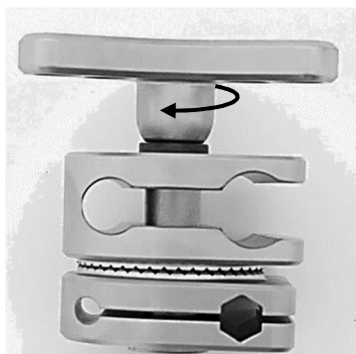

Fig. 12
Place the star grip (1) on the threaded rod (4) as shown in Figure 12 and tighten clockwise.